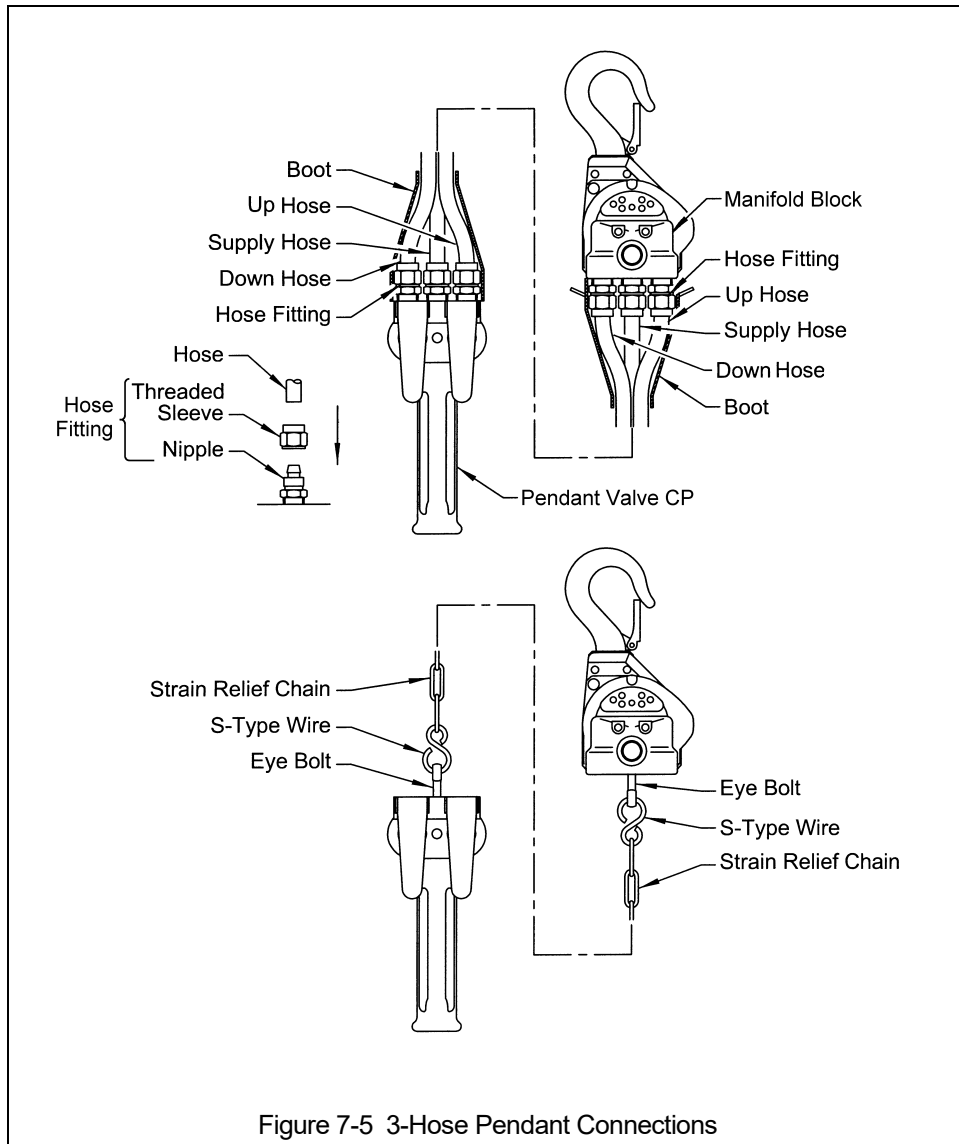

Figure 7-5 3-Hose Pendant Connections
7.3.2 The following procedure covers the installation of the 3 Hose version of the Pendant Hose (Parts List Figure Number 153) and the Pendant Valve CP. Refer to Figure 7-5.
- 3) Firmly press the Pendant Hoses completely into the Hose Fitting Nipples on the Pendant Valve CP and Manifold Block. Tighten the Threaded Sleeves onto the Hose Fittings until they bottom out. Refer to Figure 7-5 for the correct placement of the Hoses.